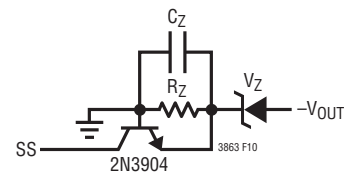

Figure 10.
- To protect against the  $V_{FBN}$  open condition it is necessary to add an output shutdown clamp. The output shutdown clamp is comprised of a Zener,  $V_Z$ , NPN and Zener bias resistor,  $R_Z$ , to ground as found in Figure 10. The clamp voltage will be the Zener forward voltage  $V_Z$  plus a  $V_{BE}$ . The clamp needs to be designed such that the worst-case minimum Zener voltage is less than the maximum operating voltage. The worst-case Zener leakage current times the Zener bias resistor should not exceed 200mV.